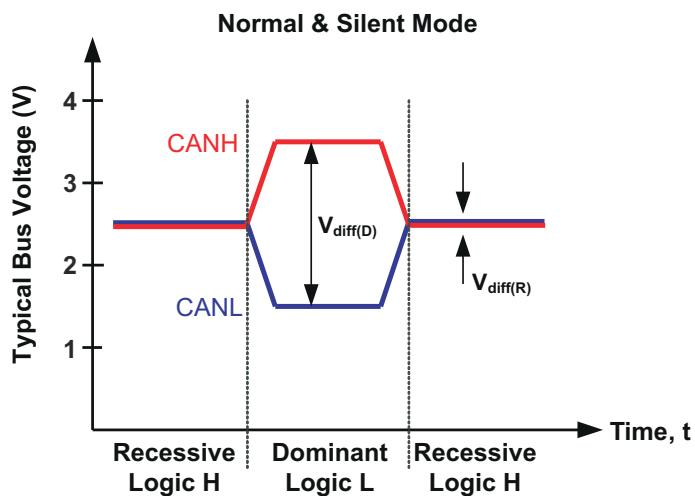
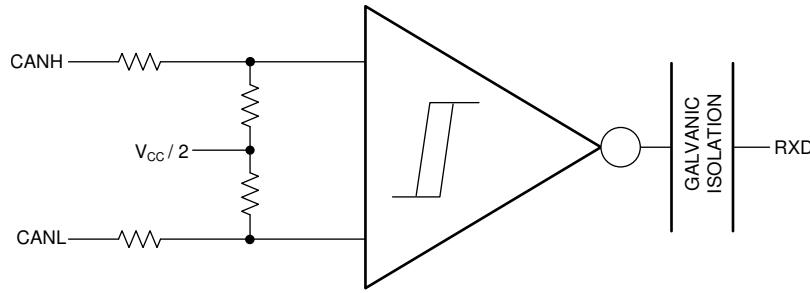

Figure 8-1. Bus States (Physical Bit Representation)
Figure 8-2. Simplified Recessive Common Mode Bias and Receiver
The CAN bus has two states during operation: *dominant* and *recessive*. A dominant bus state, equivalent to logic low, is when the bus is driven differentially by a driver. A recessive bus state is when the bus is biased to a common mode of V_{CC} / 2 through the high-resistance internal input resistors of the receiver, equivalent to a logic high. The host microprocessor of the CAN node will use the TXD pin to drive the bus and will receive data from the bus on the RXD pin. See Figure 8-1 and Figure 8-2.
(1) H = high level, L = low level, Z = common mode (recessive) bias to $V_{CC} / 2$. See Figure 8-1 and Figure 8-2 for bus state and common mode bias information.